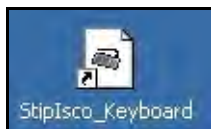

Fig. 3.3.1-3: Link of keyboard software
- Double click on the keyboard symbol located on the desktop of the panel PC (see figure 3.3.1-3).